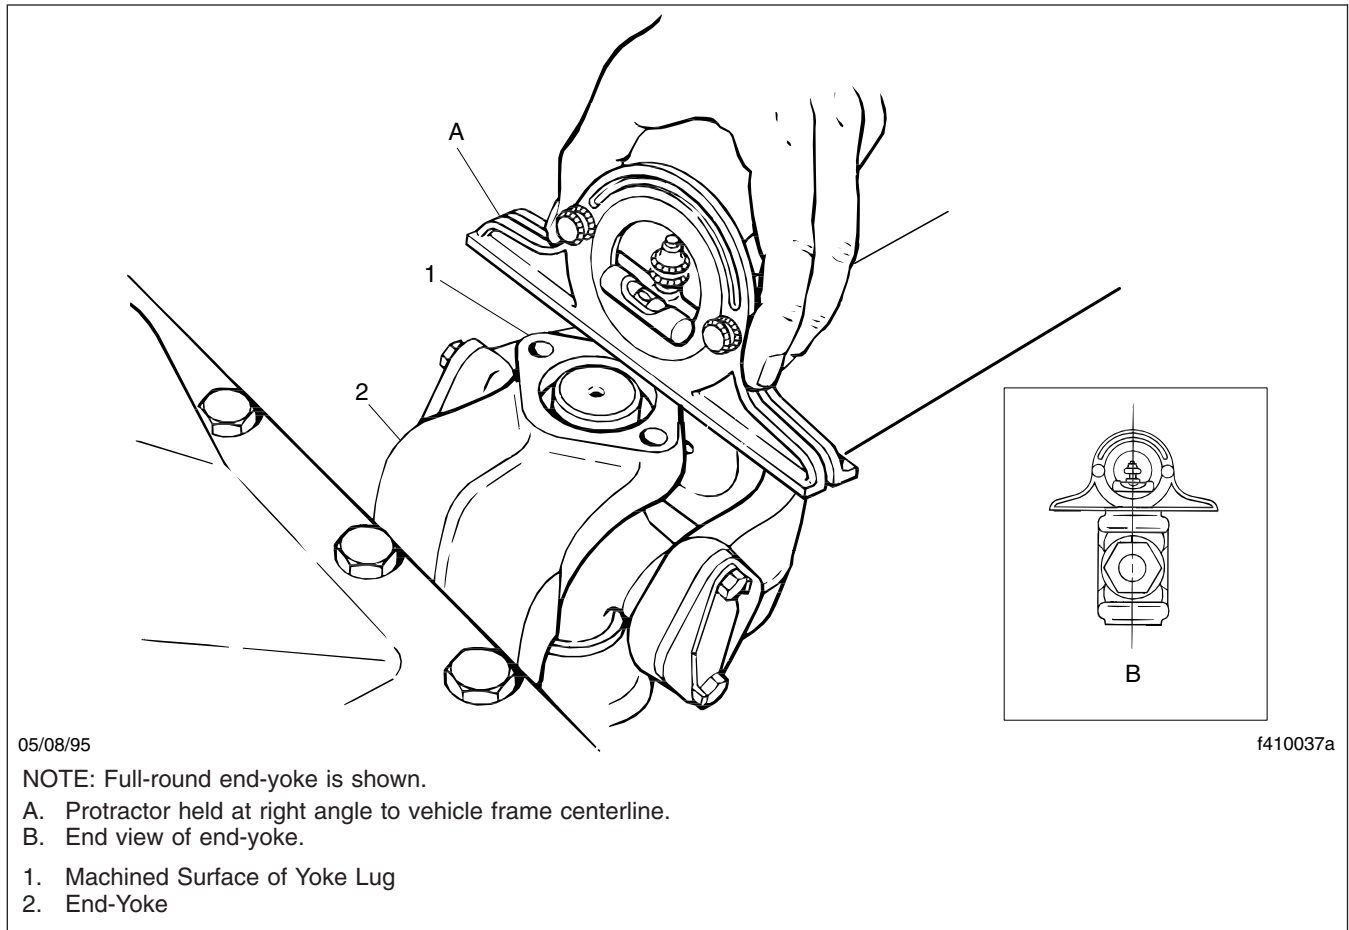

Fig. 5, Horizontal Positioning of Yoke Lug Machined Surface
5. Turn the end-yoke until the machined surface of the yoke lug is horizontal. See Fig. 5.